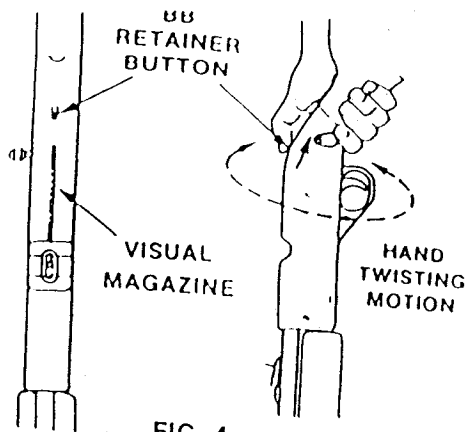

FIG. 4
- B. To transfer BBs from Reservoir to Visual Magazine, grip rifle as illustrated in Fig. 4, move the BB Retainer Button rearward with thumb, then with a hand twisting motion BBs will flow into Visual Magazine. When the Visual Magazine is filled move the BB Retainer Button forward.
- To prevent Barrel jamming, all BBs must be removed from Visual Magazine. See Step 3 Section C (Fig. 4)